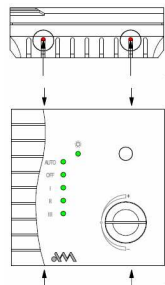

Figure 2
2. Remove EWC front panel by pressing the two pawls on bottom or top side (e.g. by screwdriver). See Figure 2.